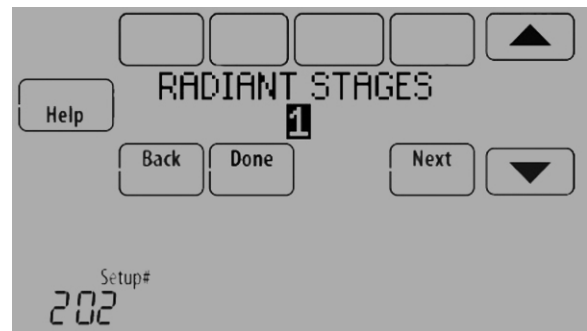

Fig. 170.
2. Select the number of Radiant Heat Stages. See Fig. 170.